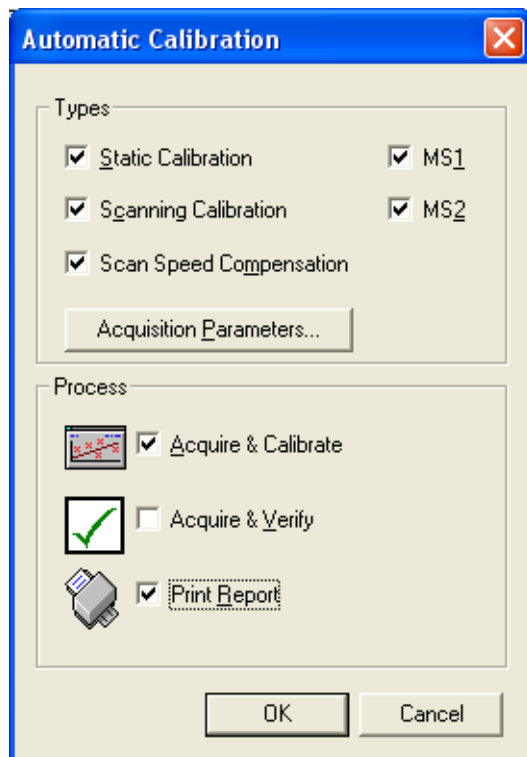

Figure 6-7 Automatic Calibration Dialog Box
Select the calibration types in the Automatic Calibration dialog box (Figure 6-7), which is opened by clicking , or by selecting Calibrate > Start from the Calibration Options window.
3. Click OK on the Automatic Calibration dialog box (see Figure 6-7).